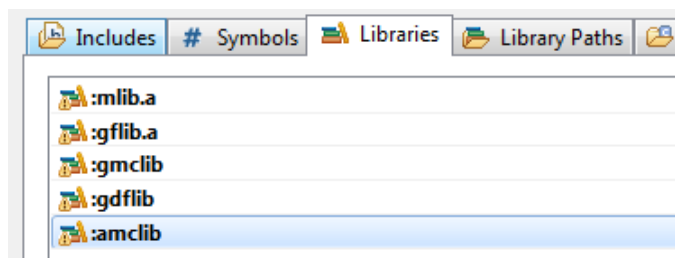

Figure 1-24. Libraries
15. After adding the library paths, add the library files. Click the Libraries tab. See Figure 1-24.
26. Click OK, and you will see the libraries added in the list. See Figure 1-24.